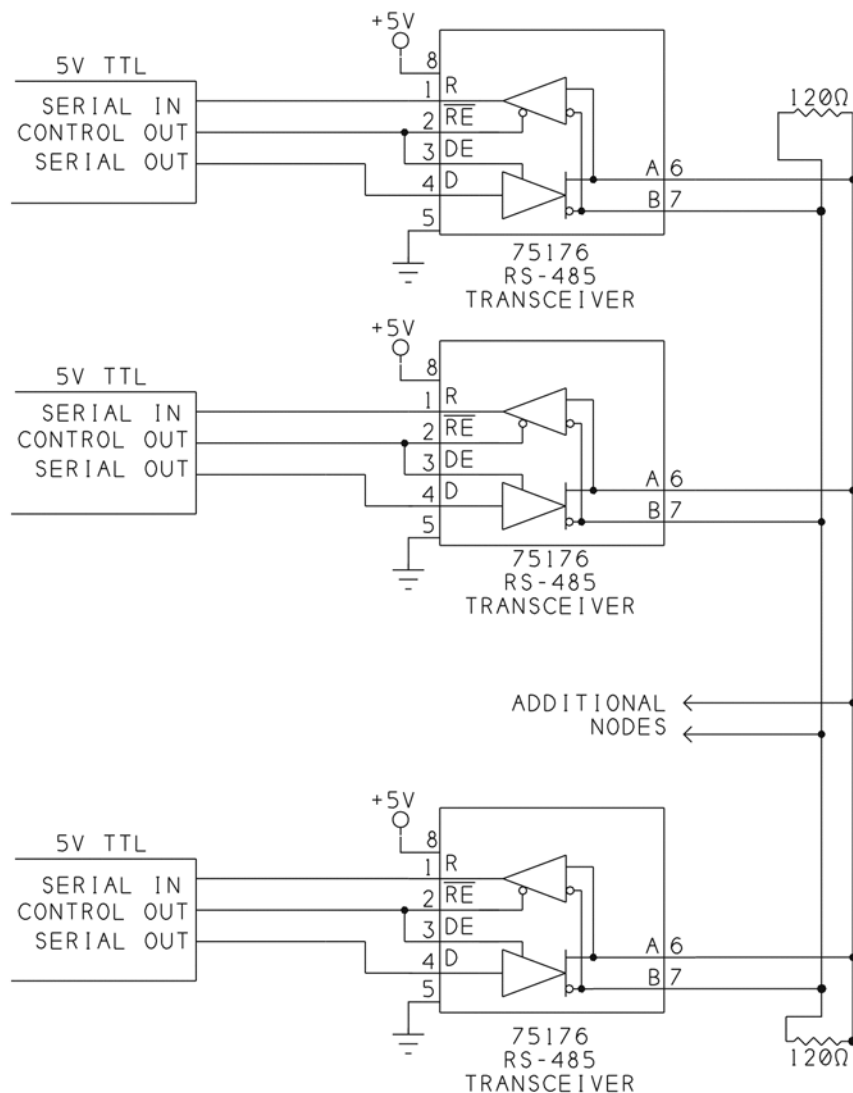

Figure 9-9: A half-duplex RS-485 link.
Figure 9-9 shows a half-duplex interface that uses Texas Instruments' SN75176B differential bus transceiver.
- In Figure 9-9, one bit controls both the driver and receiver on each chip. Because the driver's enable is active-high and the receiver's is active-low, only one will be enabled at a time. This setup is useful if a node doesn't want or need to receive its own transmissions.